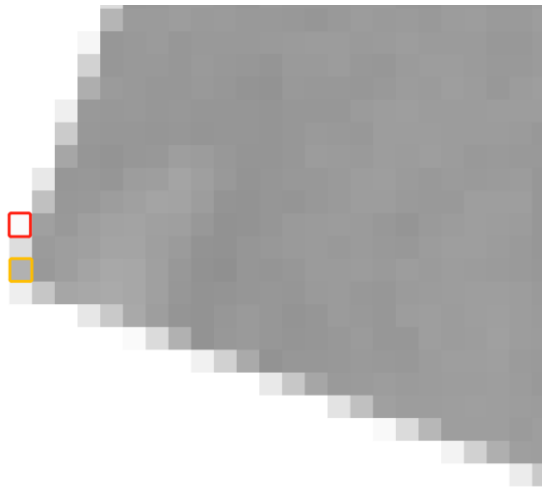

Figure 1-1: zoom in the "lighthouse1.raw"
- Because the patches are rotated version of the original one, there will be some blur effects. We can see these effects clearly at the edges, like **Figure 1-1**.
- Intuitively, we should let the program set the yellow frame pixel to be the corner pixel rather than the red frame pixel in **Figure 1-1**.